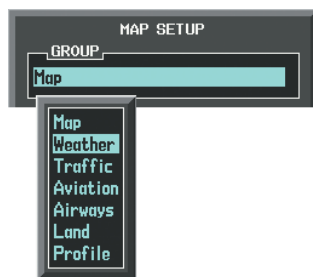

Figure 6-64 Navigation Map Page Setup Menu
- 4) Turn the small **FMS** Knob to select the 'Weather' Group and press the **ENT** Key (Figure 6-64).